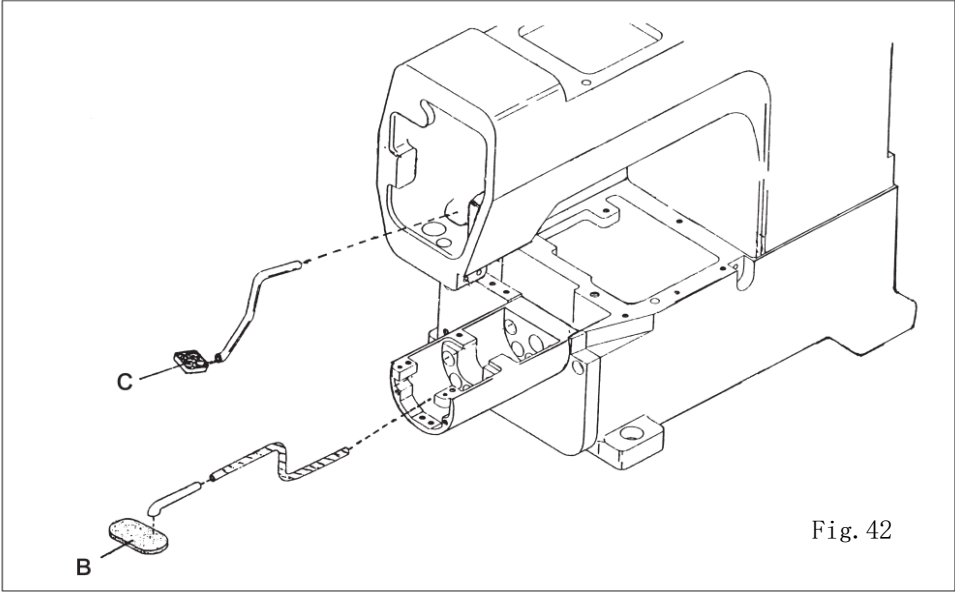

Fig. 42
2. It's very import to always clean the crack (A) of feed dog system which under the needle plate. If the cotton waste accumulate too many in cylinder or block the suck oil tube for which will cause the oil leaking, Please always clean the Feed-Dog System and change the felt of suck oil tube (B) (C) in regularly (Fig. 42)